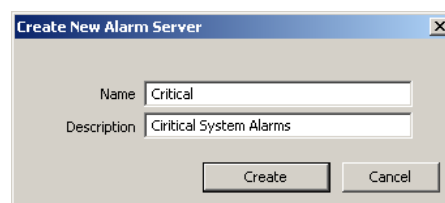

Figure 123: Create New Alarm Server dialog box.
3. In the **Create New Alarm Server** dialog box (as shown in Figure 123) enter **Name** and **Description** of the alarm server.